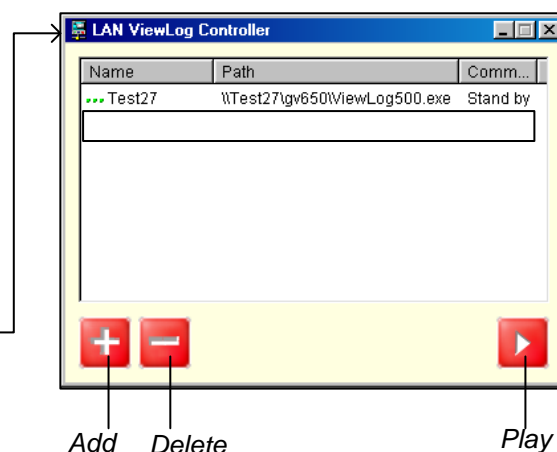

Figure 4-25-2
1. At the local computer, execute **LANViewLogCtrl.exe** to bring up the LAN ViewLog Controller window (Figure 4-25-2).